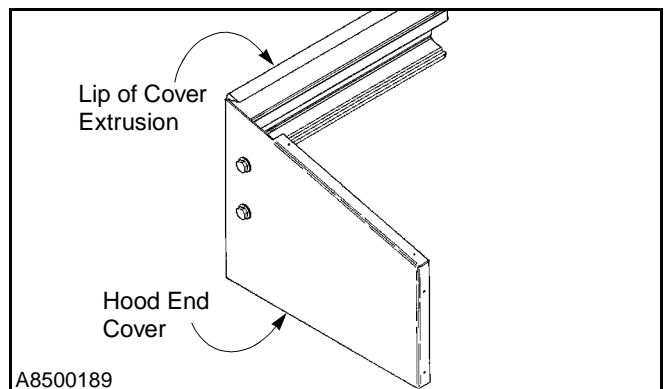

Figure 46
2. Attach the cover extrusion to the wall using the appropriate anchor hardware. Center the extrusion between the end covers, with the lip of the extrusion just above the upper corner of each end piece. (See Figure 46.)